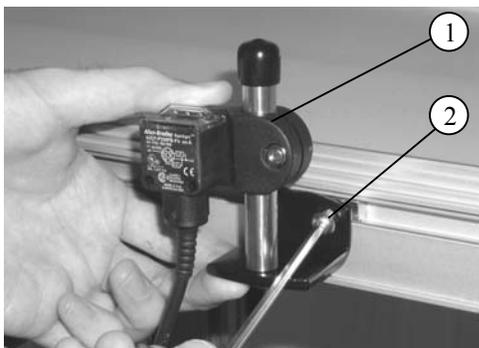

Figure 5
2. Attach photo eye assembly (Figure 5, item 1) to conveyor with screws (Figure 5, item 2).